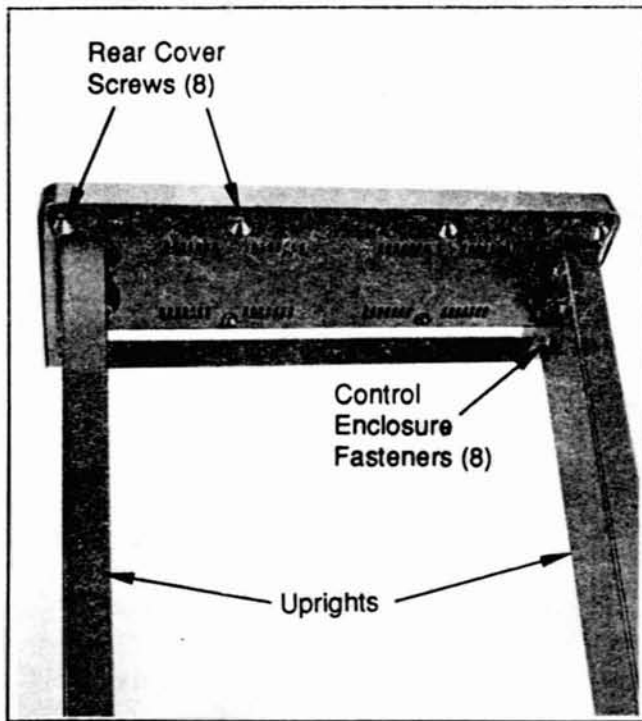

Figure 3-29. Treadmill Control Assembly (Rear View)
2. Use a 5/32" Allen wrench to remove the eight socket screws that fasten the control enclosure to the upright assembly (Figure 3-29).
3. Use a 1/8" Allen wrench to remove the eight socket screws that fasten the rear cover of the controller to the assembly (Figure 3-29).
3. Use a 1/8" Allen wrench to remove the eight screws that secure the DPU enclosure rear cover (Figure 3-29).